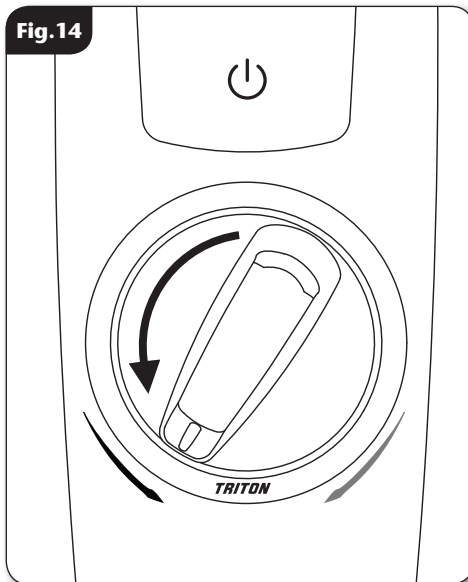

Fig. 14
- Turn the temperature control on the cover fully anti-clockwise until it stops (**fig.14**).